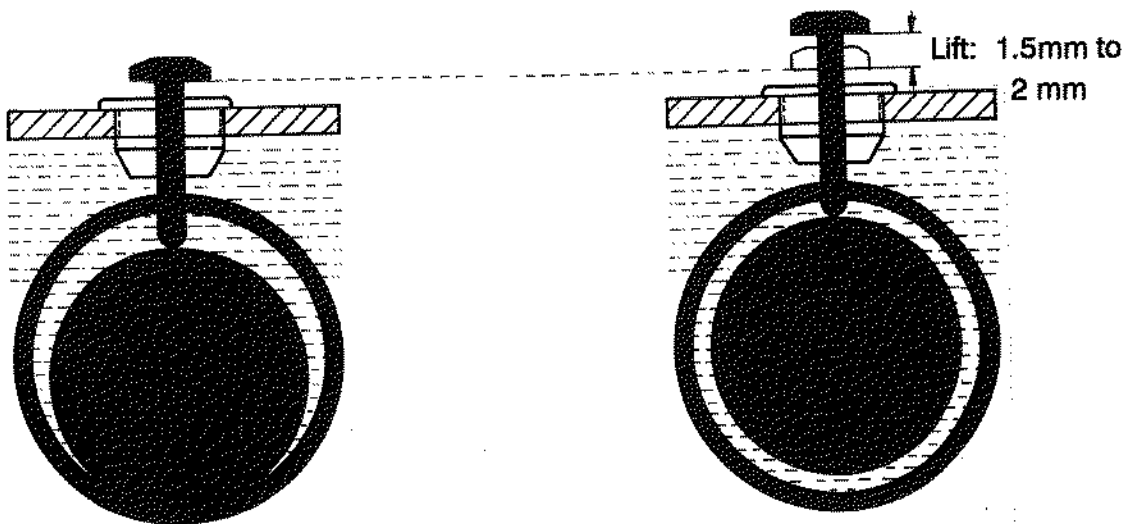

Fig. 3-30:
- Screw out the top screw of the measuring cone, insert the gauge stick into the opening of the measuring cone and measure the height of gyrosphere (see Fig. 3-30).
bottom-contact position \cong pump "OFF" (Fig. 3-30) and the